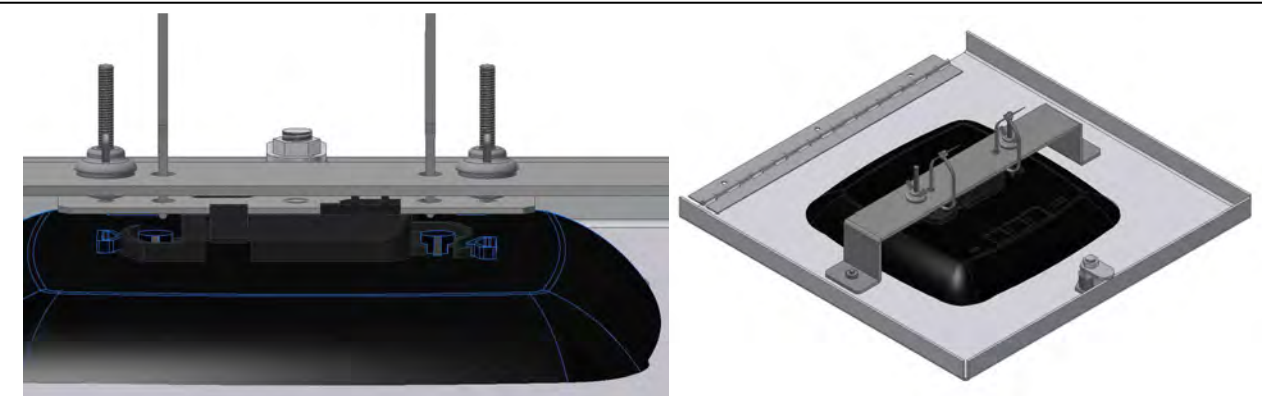

Figure 4
Step 6 – Use minimum 12-gauge support wire (included) to support the *access point enclosure* independently of the ceiling grid. Attach one end of the wire to the support wire tabs located along the edge of the back box and the other end to a permanent supporting structure within the ceiling such as a ceiling joist (Figure 4).